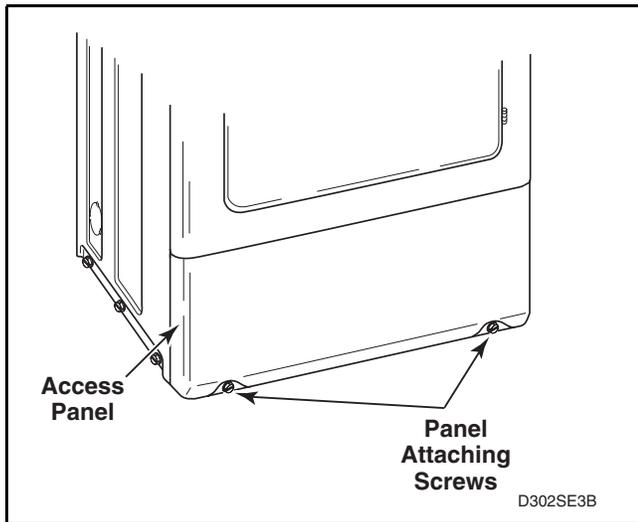

Figure 7
Refer to *Figure 7*.
- a. While supporting the access panel, remove two screws from bottom edge of access panel. Refer to *Figure 7*.